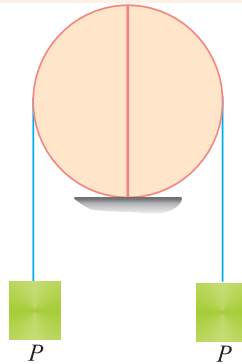

Fig. 3.6.
**Example 3.3.** Two halves of a round homogeneous cylinder are held together by a thread wrapped round the cylinder with two weights each equal to  $P$  attached to its ends as shown in Fig. 3.6.